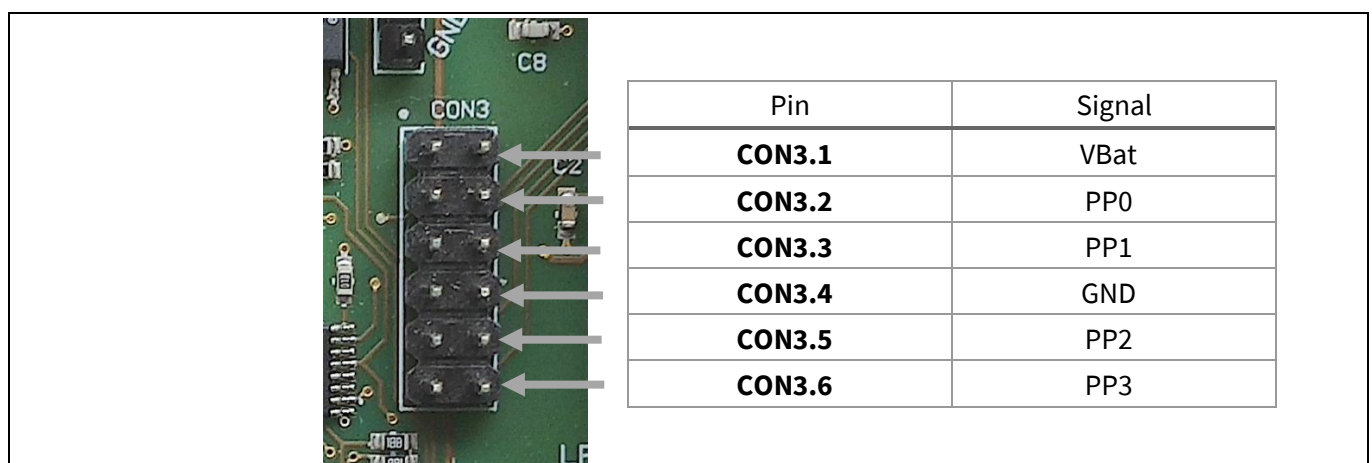

Figure 8 Pin-assignments of CON3
- Code debugging: A SP49 sample must be placed in the socket, at least the jumpers CON3.1 and CON3.[4 ... 6] must be set (see Figure 8). AOUT1 of the board must not be routed to PP3 (see chapter 2.1.7). Code can be debugged via Keil uVision.